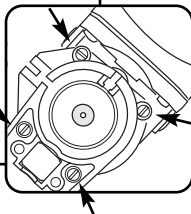

Fig.15
- Ensure that the Power Chisel extension arm is always fitted securely to the mounting plate. If loose, tighten the 4 screws that hold the Power Chisel to the mounting plate on the tool body. (as seen in fig.15)